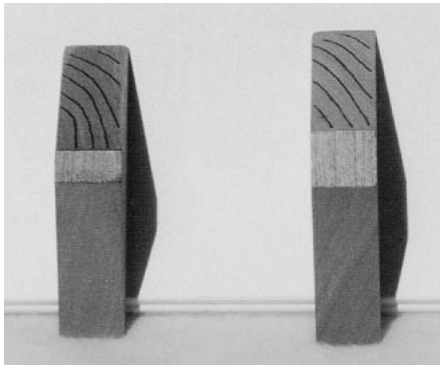

Figure 6: Grain lines marked for clarity so they can be oriented consistently during ring assembly
1. The first step is orienting the grain lines on the cut faces of the segments so that they don't change erratically, curving up and down from segment to segment, in the final turned surface. I have found that arranging the pieces for the assembly of each ring so the grain lines are either all level or turn down (Figure 6) gives a pleasing effect. This arrangement will be impossible in most cases if, as discussed earlier, you are committed to assembling the segments for each ring in the sequence in which they were cut—half will turn up; the other half down.
Finally, the fifth aid concerns catches that happen while using scraping tools inside hollow forms. The position of the cutting edge on the radial axis is very important. As Figure 6 indicates, if your cutting edge is slightly above the centerline when you start to get a catch, the force of a catch will pull your tool away from the wood. When your